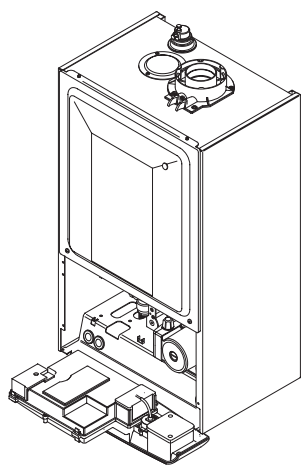

Fig. 2
1. Ensure that the electrical supply to the boiler is isolated. Undo the screws securing the fascia and lift off the front panel. Allow the fascia to drop down (Fig. 2).